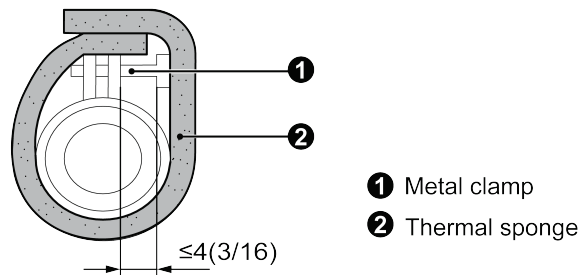

Fig.4.36
- (2) Tighten the pipe clamp to make the distance between screw cap and hose less than 4mm (3/16inch).
- (3) Perform thermal insulating for Pipe clamp and hose with gasket. (perform the thermal insulation after the drainage system test as shown in Fig.4.36 is finished).